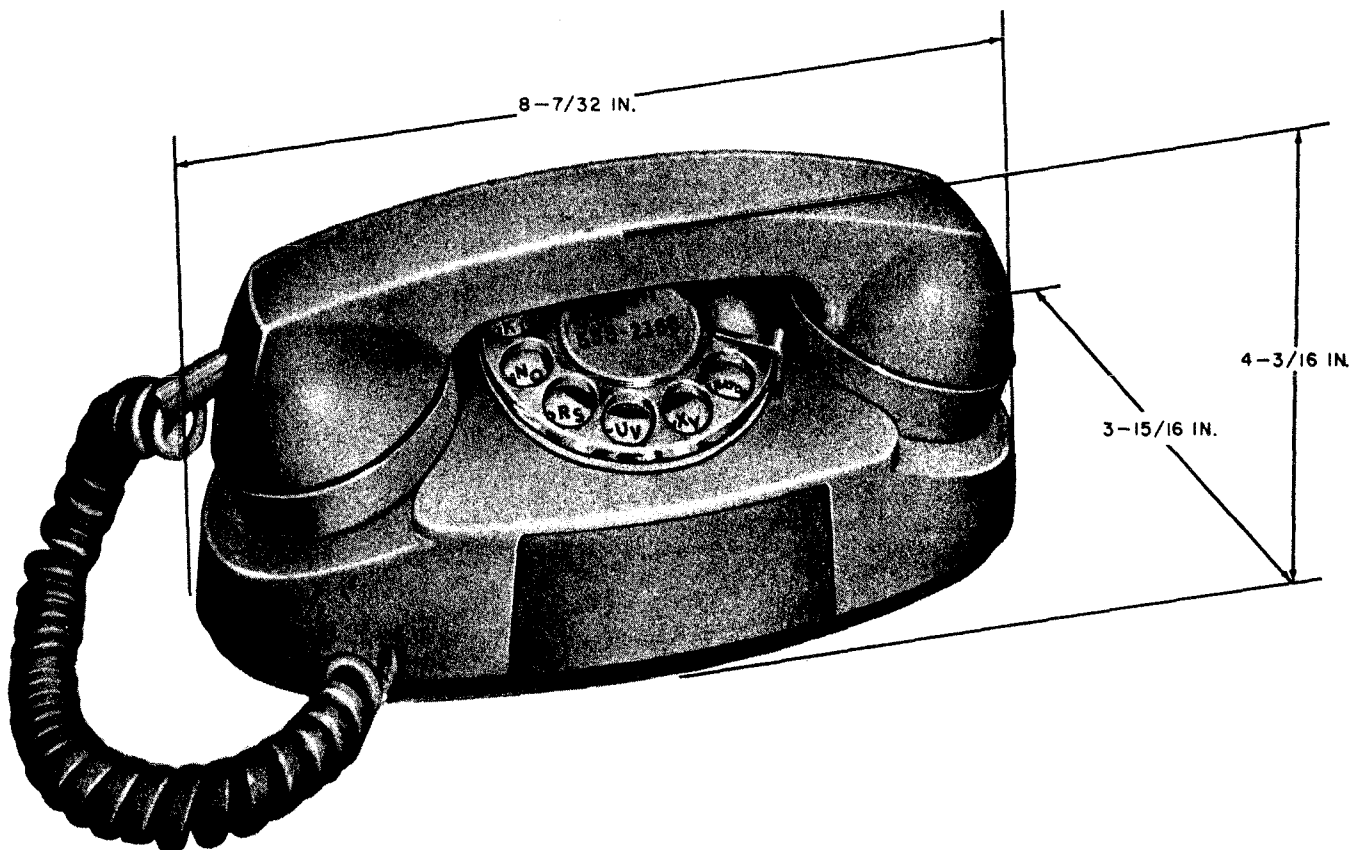

Fig. 1 — 700-Series Telephone Set
1.01 This section covers PRINCESS[®] telephone sets equipped with rotary dials (Fig. 1).